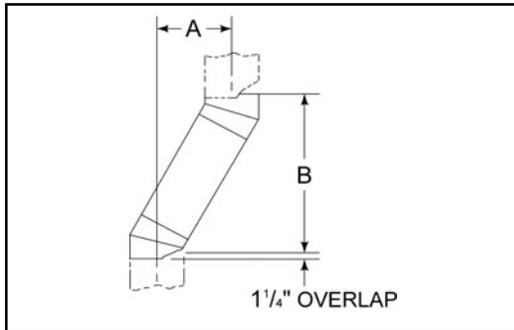

Figure 8 - Chimney Offset/Return
- 1) Measure how far the chimney needs to be shifted to enable it to avoid the overhead obstacle. See Figure 8, dimension "A".
Example: Your "A" dimension from Figure 8 is 14-1/2". Using Table 1, the dimension closest to but not less than 14-1/2" is 14-5/8" using the 30° offset/return. It is then determined from the table that you would need 33" (dimension "B") between the offset and return. The chimney components that best fit your application are two SL312's.